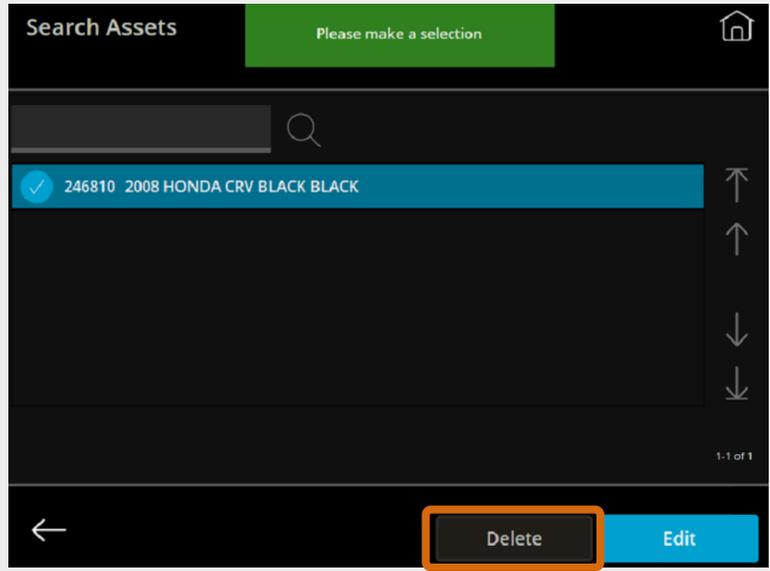

Fig. 27 – Search Assets screen with the Delete button indicated
7. Press **Delete**, as shown in Fig. 27.